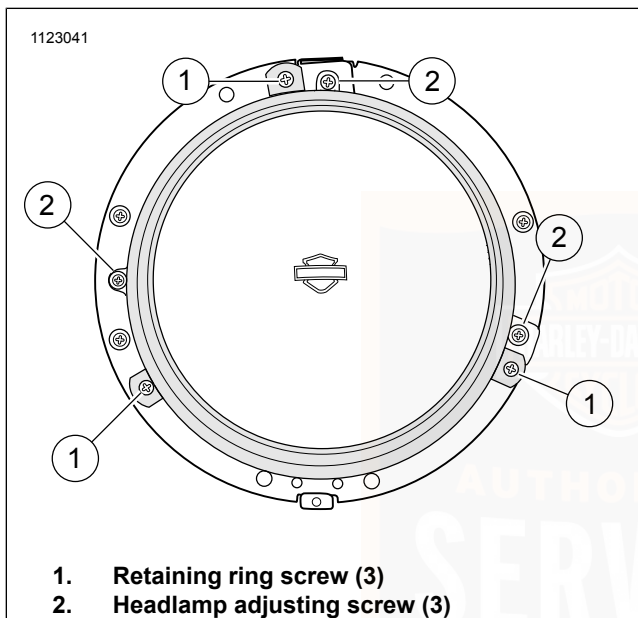

Figure 97. Headlamp Retaining Ring
2. See Figure 97. Secure headlamp assembly with retaining ring and screws (1). Tighten.